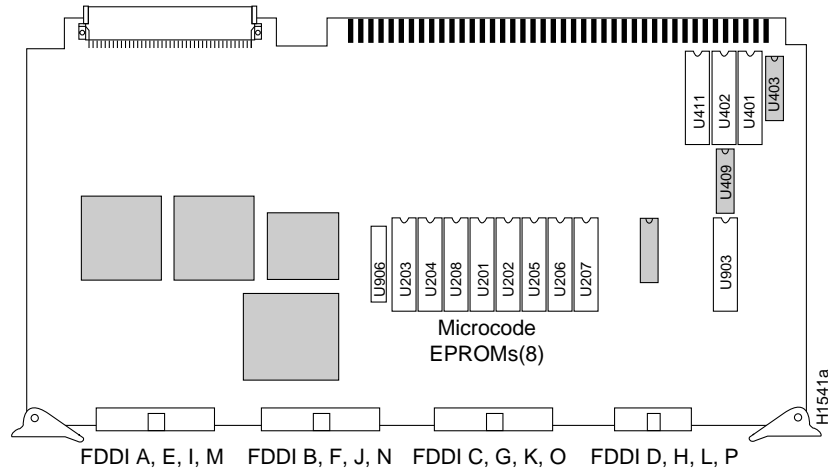

Figure 1 CSC-FCI Controller Type 4.0
Step 6 Locate the eight microcode components (U201 through U208) and two PALs (U906 and U402) to be replaced, which are shown in Figure 1. You need to replace the two PALs only if the existing microcode is earlier than Version 2.0. Refer to the appropriate table as follows:
Note The PAL in socket U402 is the third component from the right edge of the board when viewing the board in the orientation shown in Figure 1. The silk-screened labels on the solder side of the board are aligned with pin 1 of the respective component and are not aligned consistently with the actual position of the component on the board. To help you to avoid pulling the wrong part, use the illustration instead of the silk-screened labels to locate and identify components.
- Step 8** Insert the new components into the appropriate sockets, as shown in Figure 1 and listed in Tables 2 and 3. Align the notch on the component with the notch on its socket as shown.
- If a ciscoBus controller card LED still fails to come on for a CSC-FCI you just reinstalled, remove the card and check the microcode and PAL components for bent pins and aligned notches. Ensure that the components are installed with the notched edge at the correct end of socket, as shown in Figure 1.